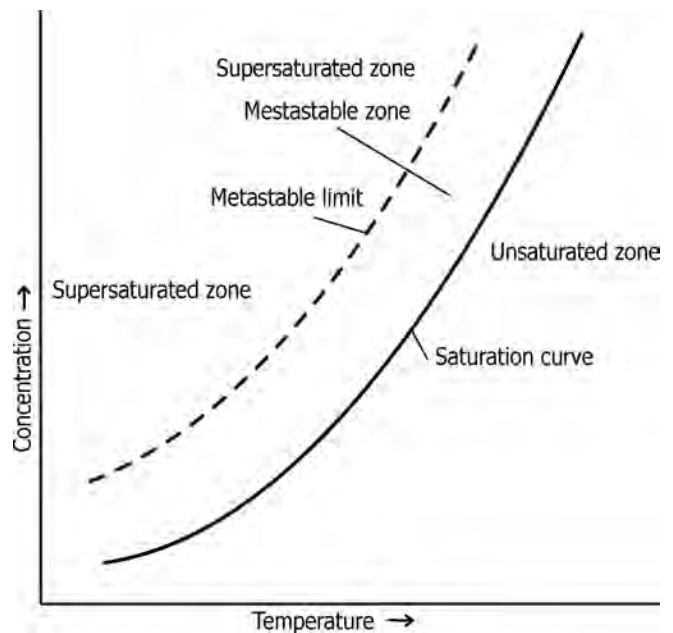

FIGURE 18.1 Depiction of supersaturation, metastable, and unsaturation zones in a crystallization process.
- Metastable zone is illustrated on Figure 18.1 The region between the solubility curve and the limit of stability (the dashed line) is called metastable zone.